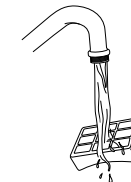

Fig. 28
- 4 Wash the filter under the tap using lukewarm water with the dirty side face down until the water runs clear. (Fig. 28)